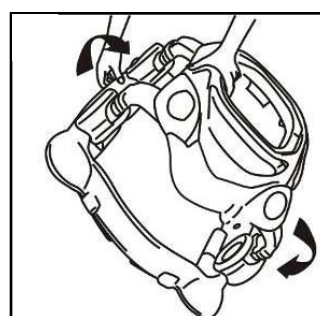

Figure 5
- Put the assembly on its side, as per **Figure 5** and connect the four large plastic nuts on the protruding threads by tightening them clockwise, as per **Figure 6** and **Figure 7**.